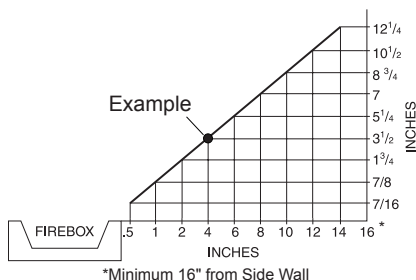

Figure 8 - Minimum Clearance for Combustible to Wall
- where curtains, furniture, clothing or other flammable objects are less than 36" from the front and 42" from top of fireplace; for side clearances see Figure 8, page 10
- A. Clearances from the side of the fireplace cabinet to any combustible material and wall should follow diagram in Figure 8.
Example: The face of a mantel, bookshelf, etc. is made of combustible material and protrudes 3 1/2" from the wall. This combustible material must be 4" from the side of the fireplace opening (see Figure 8).